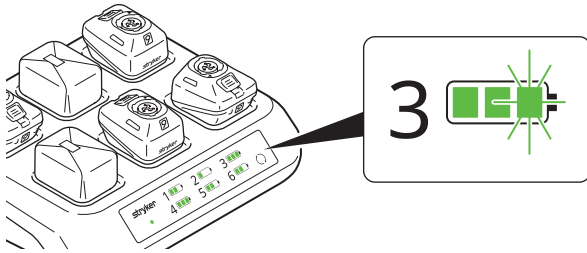

Figure 6 – Charge in process
6. Once the charging sequence begins, the target state of charge bar on the battery status indicator flashes continuously to indicate that charging is in process (Figure 6).